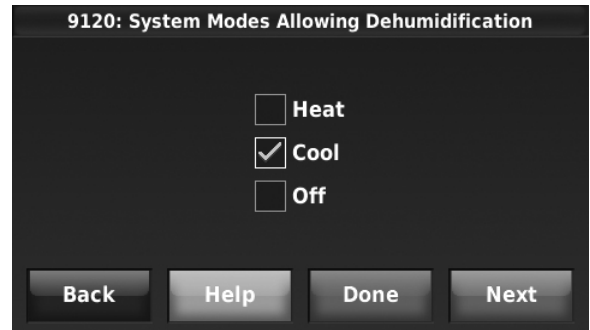

Fig. 141.
5. Select the system mode(s) to allow dehumidification. See Fig. 141.